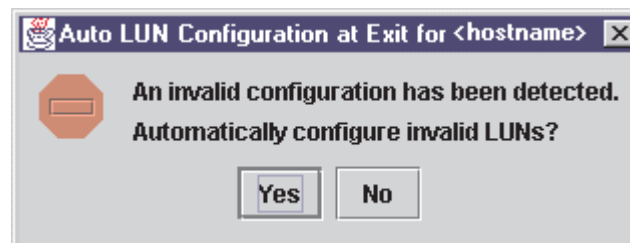

Figure 100. Auto LUN Configuration at Exit dialog window
4. Click **OK** to save the changes until you exit the Fibre Channel Port Configuration window; then, review the configuration changes (see Step 3). If FASiT MSJ detects an erroneous LUN configuration while saving the configuration, the Auto LUN Configuration at Exit for <hostname> window is displayed (see Figure 100).